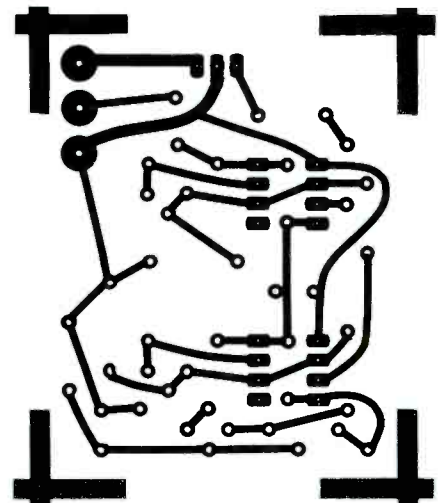

Fig. 2. This foil pattern will allow you to make a printed-circuit board of your own on which to mount the components
**Building it.** Construction is straightforward. You can use either a perfboard or PC board to mount the parts. If you create a PC board using the foil pattern shown in Fig. 2, be sure to connect the jumpers that run underneath the ICs before installing the ICs themselves (see Fig. 3).